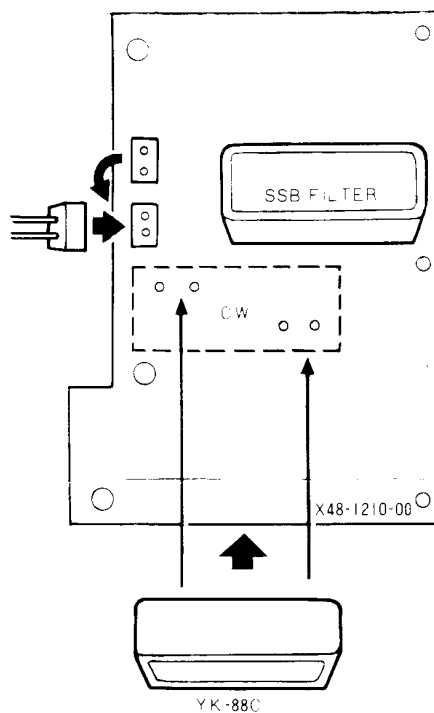

Fig. 1
4. Move the connector (29) to the other position. (See Fig. 1)